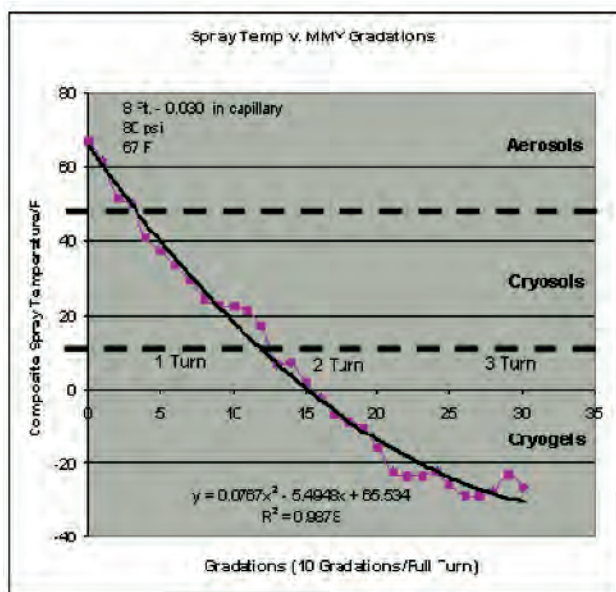
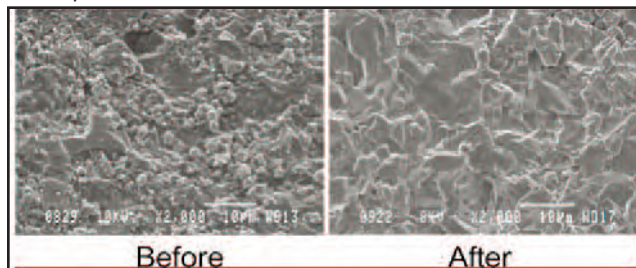

**Fig.1 CO2 composite spray technology for cleaning, cooling and machining.**
**Fig.2 Precise spray temperature control.**
Advanced CO2 composite spray technology addresses the drawbacks and limitations of conventional CO2 spray cleaning and cooling processes. CO2 composite spray technology provides several process control and performance advantages. These include CO2 conservation, impact stress control, precise temperature control, additive technology, and easier adaptability to automation and process equipment. Moreover, CO2 composite spray technology has been adapted to address the needs of modern machining, providing near-dry to dry cooling-lubrication functions during processes such as turning, milling, stamping, and drilling. Figure 1 on page 16 illustrates the patented, Coanda nozzle and composite spray technology used in combining the components of the cooling spray. While Figure 2 presents a graph of the cooling spray temperatures as the system is adjusted.
Referring to Figure 1, a CO2 composite spray has three ingredients; 1. CO2 particles having a certain size and concentration, 2. clean compressed air (CA) having an adjustable pressure (P), temperature (T) and flow, and 3. optional additive component comprising an adjustable microscopic flow of liquids (i.e., lubricants) or solids (i.e., micro-abrasives). The patented, Coanda nozzle technology is used to combine the ingredients and deliver the spray composition to a surface. The ternary diagram above suggests a 70% air-30% CO2 composition.
Figure 2 shows an exemplary temperature profile for a CO2 composite spray given the setup indicated in the top left corner (air at 80 psi and 67°F). As the percentage of CO2 is increased, the temperature of the cooling stream decreases. Spray temperatures as high as +300°F to less than -70°F can be produced depending upon a particular composition employed.